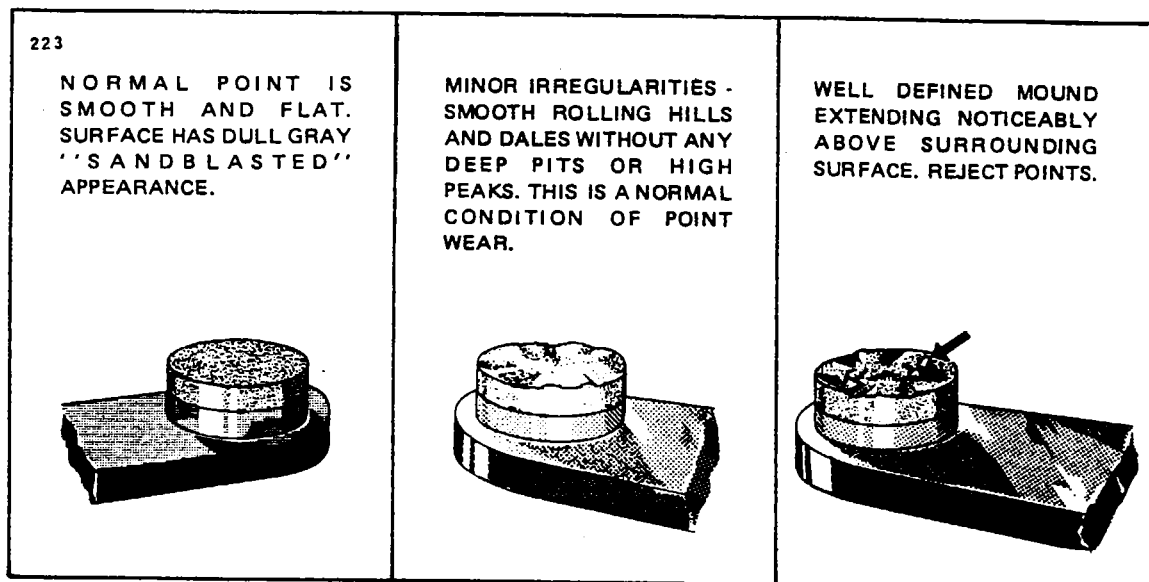

Figure 8-10. Contact Points
e. Remove the breaker cover and harness securing screws and nuts, and separate cover from magneto housing. Check contact assemblies to see that cam follower is securely riveted to its spring. Examine the contact points for excessive wear or burning. Figure 8-10 shows how the average contact point will look when surfaces are separated for inspection. Desired contact surfaces have a dull gray, sand-blasted (almost rough) or frosted appearance, over the area where electrical contact is made. This means that points are worn in and mated to each other, thereby providing the best possible electrical contact and highest efficiency of performance.
f. Minor irregularities or roughness of point surfaces are not harmful. (Refer to Figure 8-10 center.) Neither are small pits or mounds, if not too pronounced. If there is a possibility of pit becoming deep enough to penetrate pad, Figure 8-10, right, reject contact assembly.